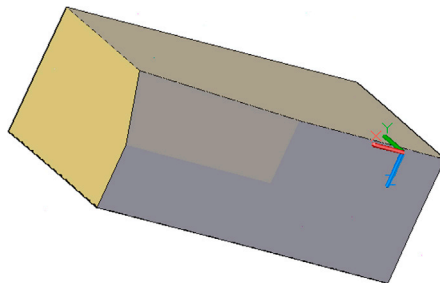

FIGURE 26.31 Collapsed face.
- *Collapse Face or Edge*: This tool, found under the Ribbon's Mesh, Mesh Edit, makes a selected face or edge disappear on a shape, with the remaining ones closing ranks around the void, as seen in Fig. 26.31 with a mesh box.